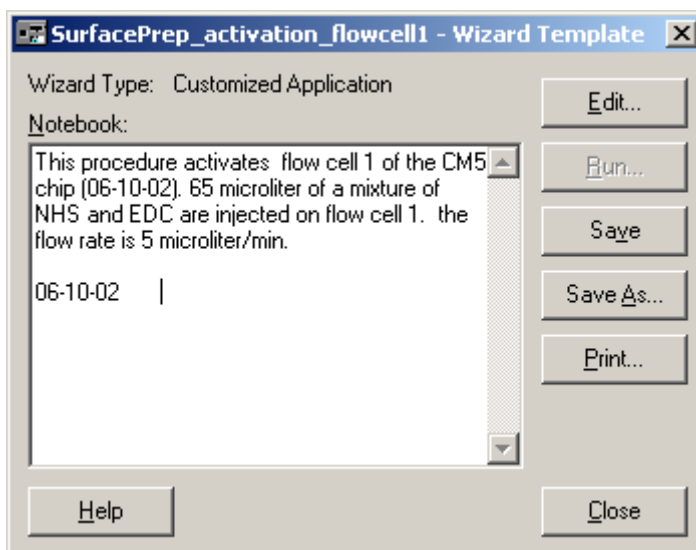

Figure 2.1.
- 2.3 Write a brief note in the Notebook section. An example is shown in Figure 2.1.